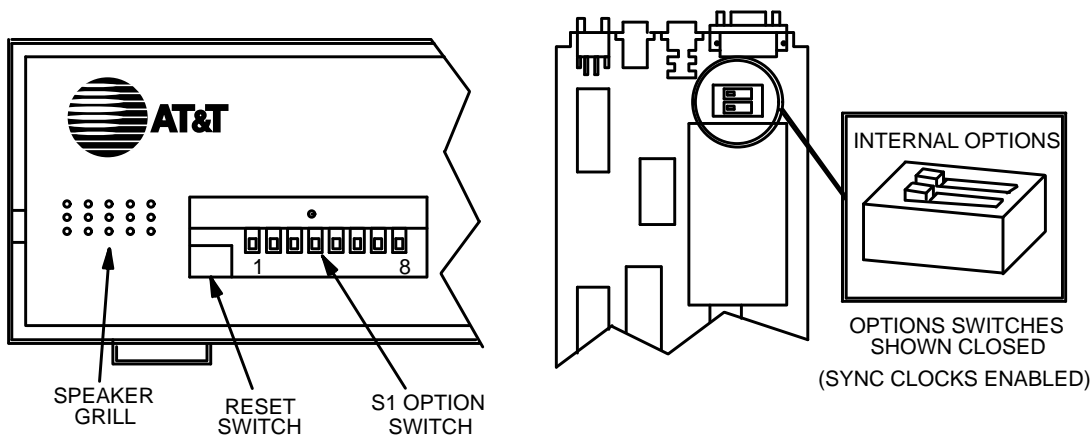

FIGURE 3-1
- 1 Remove the CEO modem cover to access the Internal Option switches. See Figure 3-1 for a diagram of the CEO modem hardware switches.